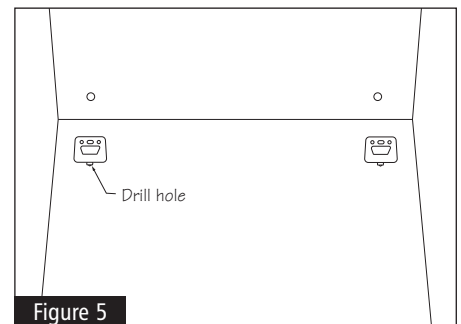

Figure 5
**8** Using a 1/4-in drill bit bore holes into the bottom of the cabinet where indicated. Once complete for both sides remove the template from the bottom of the cabinet and place a glide mounting bracket in each of the drilled holes. The tab on the bracket will be inserted into the hole. Secure in place with the provided screws. See Figure 5.